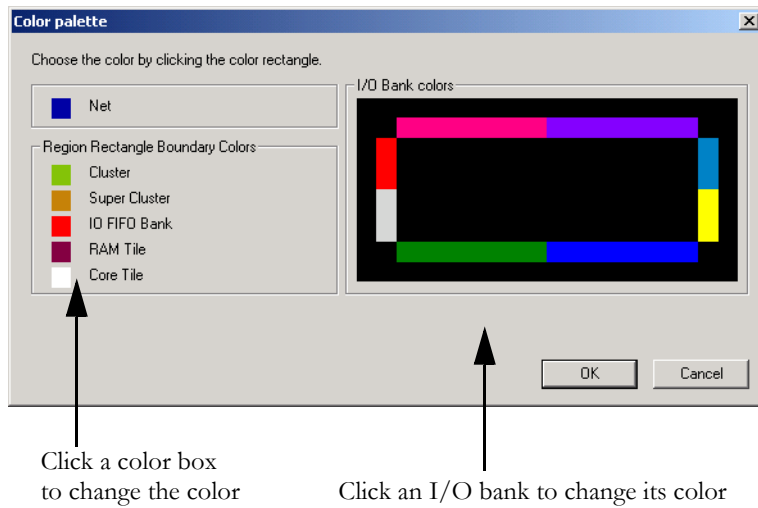

Figure 1-2. Color Manager
1. Click **Color Manager** from the **View** menu. The color manager dialog box is displayed, as shown in Figure 1-2.